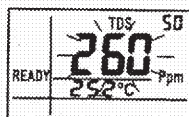

Fig. 1
7. Press **CAL** key for more than 2 sec. To begin the calibration. The TDS value will blink on the LCD. (Fig. 1)